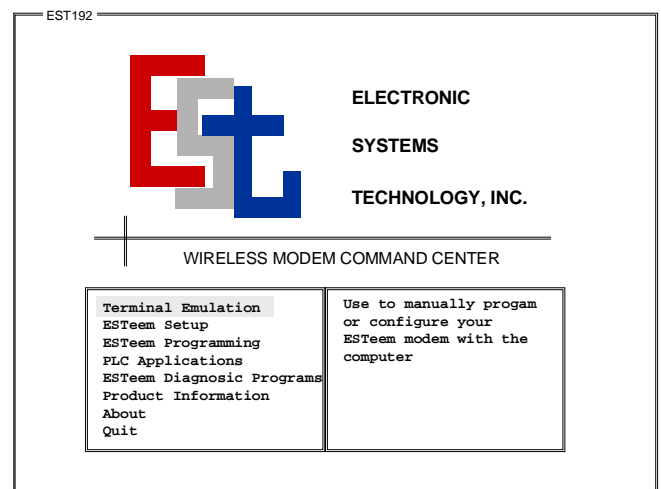

Figure 2: ESTeem Utility Main Menu
1. To run the program, type EST-U followed by a RETURN. Figure 2 shows an example of the menu of the ESTeem Utility program. If you see this menu, you have successfully completed the installation of the ESTeem Utility software.